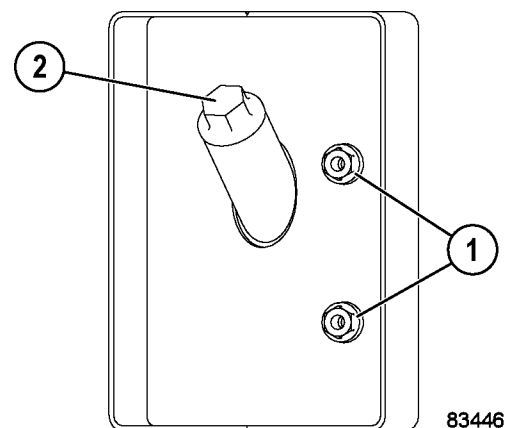

FIGURE 40-1. HYDRAULIC TANK SERVICE
2. Remove fill cap (2, Figure 40-1) and add hydraulic oil until the oil level is visible in the center of the top sight gauge.